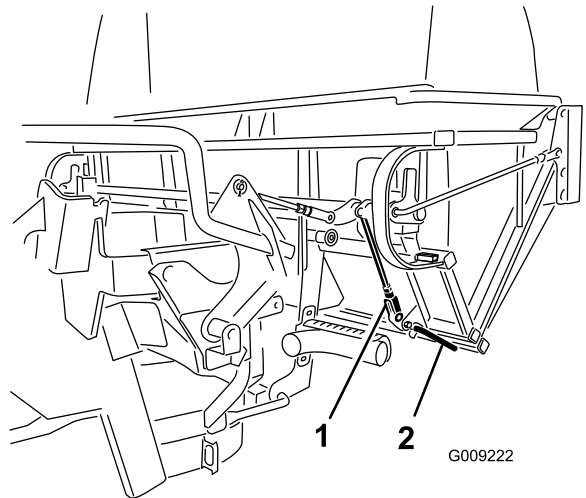

Figure 49
4. Ensure that the latches completely engage and contacts the latch rod welded to the door (Figure 49).